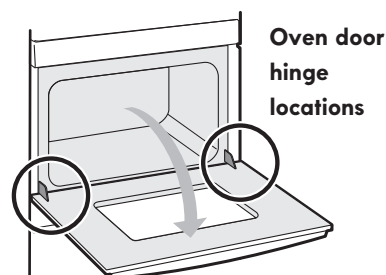

Figure 17: Door hinge location
1. Open oven door completely, horizontal with floor (Figure 17).
3. Fully open the oven door, horizontal with floor (Figure 17).